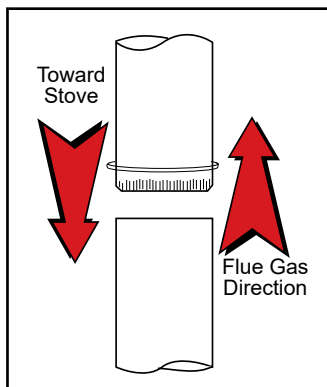

Figure 2.3
- Begin assembly at the flue collar of the stove. Insert the first crimped end into the stove's flue collar, and keep each crimped end pointing toward the stove, Figure 2.3. Using the holes in the flue collar as guides, drill 1/8" (3 mm) holes in the bottom of the first section of chimney connector and secure it to the flue collar with three #10 x 1/2" sheet metal screws. Lift off the griddle, and shield the stove's surface between the griddle opening and the front of the flue collar to protect the finish when you drill the front hole.